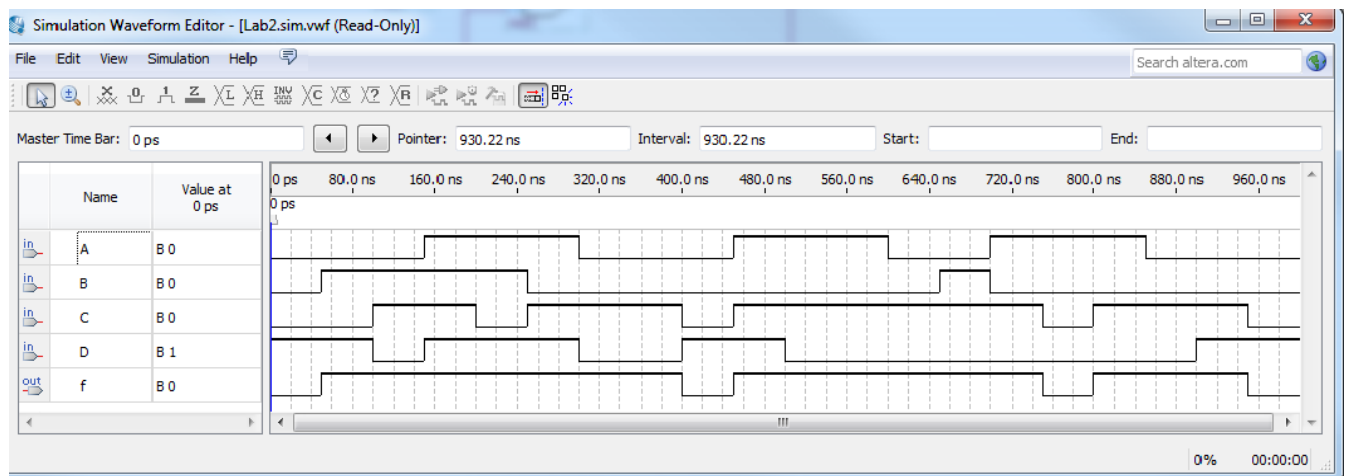

Figure 7. Simulation Output
10. Simulation results will now be displayed as simulated waveforms in the Waveform Editor window (See Figure 7). Observe that the output f is no longer undefined (X) after the simulation is completed. You can verify the correctness of the f output by checking or by using pen and paper.
11. While the final simulation waveform is shown on your screen in the Simulation waveform editor (as shown in Figure 7). Press the two keyboard buttons: **[Alt] [PrintScreen]** to capture the Simulation output window as an image. Then open the **Paint** program by selecting from the **Start** Menu of Windows 7. In **Microsoft Paint**, paste the captured image by clicking the **Paste** button (or by pressing the two keyboard buttons: **[Ctrl] [v]**). Finally save the image as **Lab2-output.png** in your **My Documents\Lab2** folder.